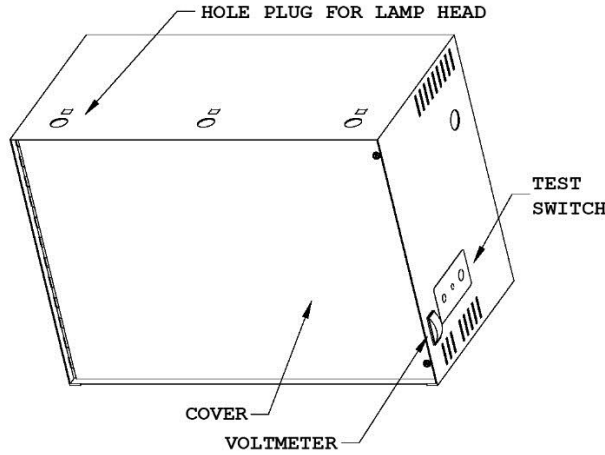

Figure 1
1. Remove keyway knockouts (2) if cabinet is to be mounted to the wall.
2. Remove hole plugs as needed for installing the lamp heads. (Figure 1)